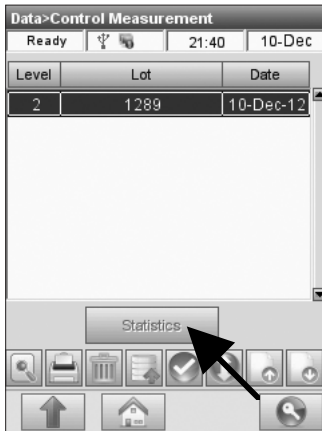

Fig. 6-13 Controls Statistics
2. In the **<Data - Control Measurement>** screen, press the **<Statistics>** button (Fig. 6-13).